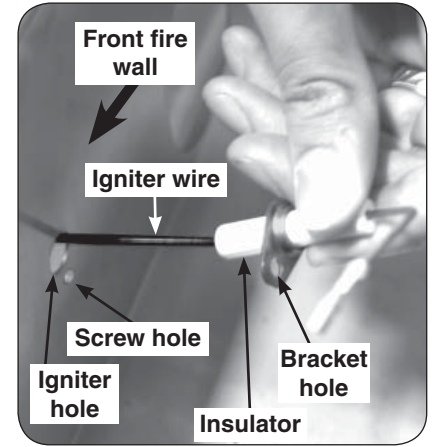
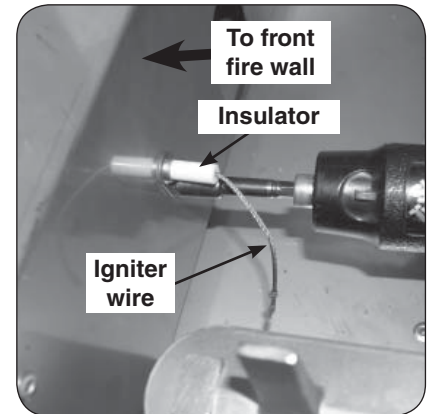

Fig. 3-1 Screw the new wire to the fire wall
Fig. 3-2 Screw the new wire to the fire wall
1. Locate the new igniter wire with the insulator attached and thread the wire end through the hole in the oven fire wall left by the old igniter, from the oven side as shown in Fig. 3-1. Continue to thread the wire end through the insulator tube in the manifold fire wall and through the slot in the heat shield, then route it toward the igniter module on the right. (Hint: wrap around existing wire bundle.)
3. Attach the insulated portion of the igniter wire to the inside of the oven fire wall by placing the screw (included) through the bracket hole and into the hole in the fire wall (see Fig. 3-1 and Fig. 3-2).